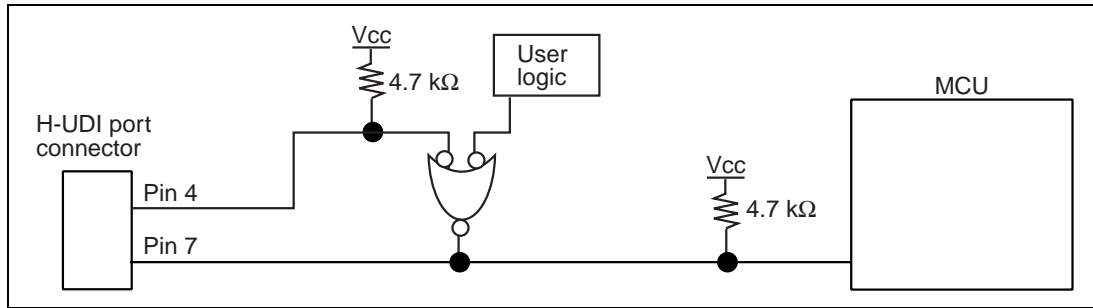

Figure 4.4 Examples of Reset Circuits
3. **RES# of pin 4 of the H-UDI port connector is a signal line in which the emulator outputs signals to the MCU. RES# of pin 4 and the user system reset circuit must be connected to the MCU, as shown in figure 4.4. RES# of pin 7 of the H-UDI port connector is a signal line in which the emulator monitors the RES# signal of the MCU. The RES# must be pulled up before it is connected to pin 7 of the H-UDI port connector.**